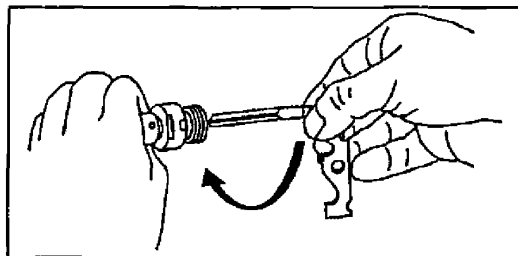

Figure 071-312-4025-16. Cleaning the central hole
(3) Clean the two grooves of the regulator body using the protruding tips of the scraper (figure 071-312-4025-17).